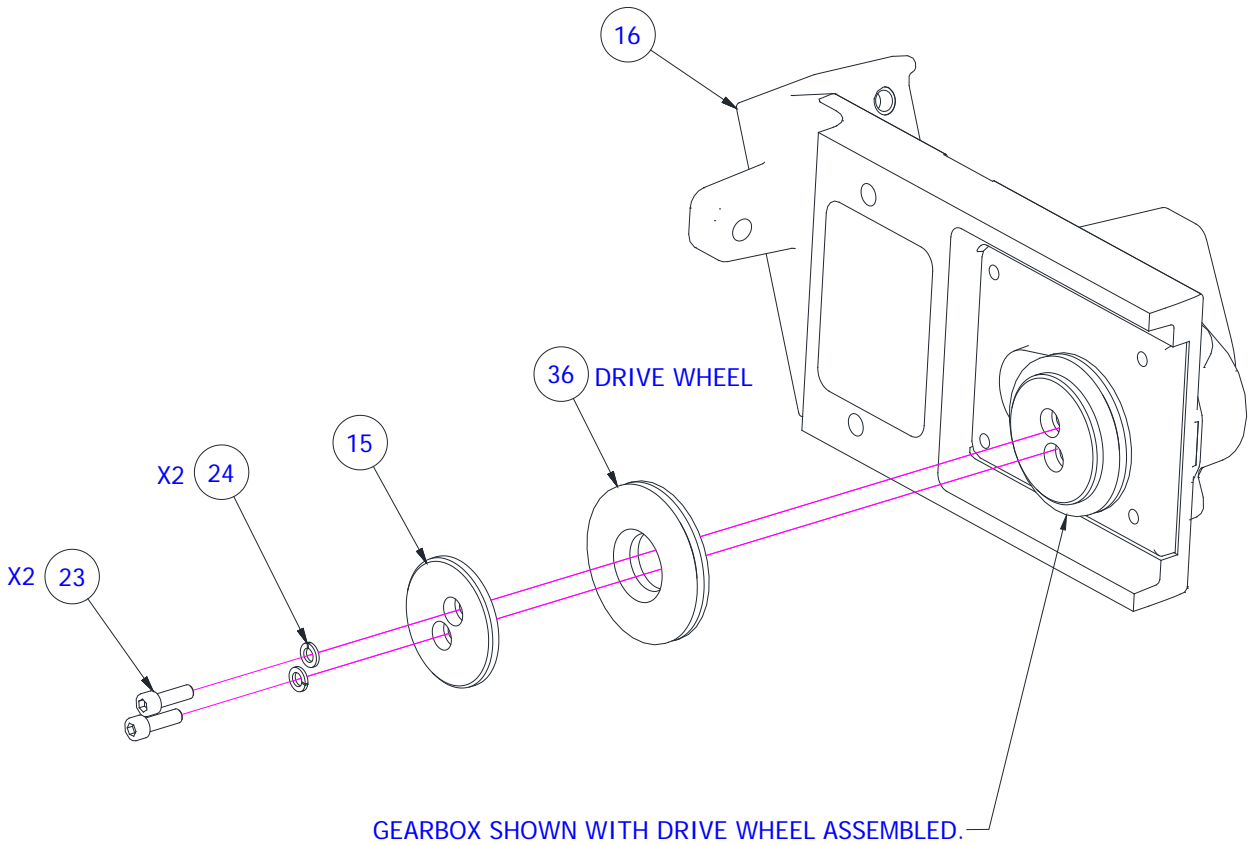

Figure 4-1
1. Remove the (4) Roller Covers (39) with a phillip's head screwdriver by removing (2) screws ph #10 (31) per each cover.
2. Loosen the blade adjusting (knurled) Knob (41).
3. Loosen and remove the (2) 3/8"HHCS's (25,20,44) using a 9/16" wrench.
4. Disconnect the plastic Water Hose (38) @ the ¼" 90 deg. elbow (40), by pressing the end of a flat head screwdriver against the end of the black plastic elbow , force parallel with the tube , in the direction of the elbow. While doing this, pull the plastic tube out of the elbow.
5. Remove the Roller Frame (1) with the blade (36) from the Gearbox Housing(16)
6. Remove the Blade Guide (18A), or (2) spacers(18B),(when optional blade guide is not purchased), by removing (2) ¼" HHCS's (29,21,3) from Roller Frame.
7. Loosen (4) Rollers: by loosening each ¼" HHCS(6,4,5), then turning ea. Ecc. shaft (7) slot to 3 o'clock/9 o'clock position from the blade, with a flat head screw driver.
9. Ref.: Drive Wheel Removal and Installation Diagram, Figure 4-1, pg. 12: